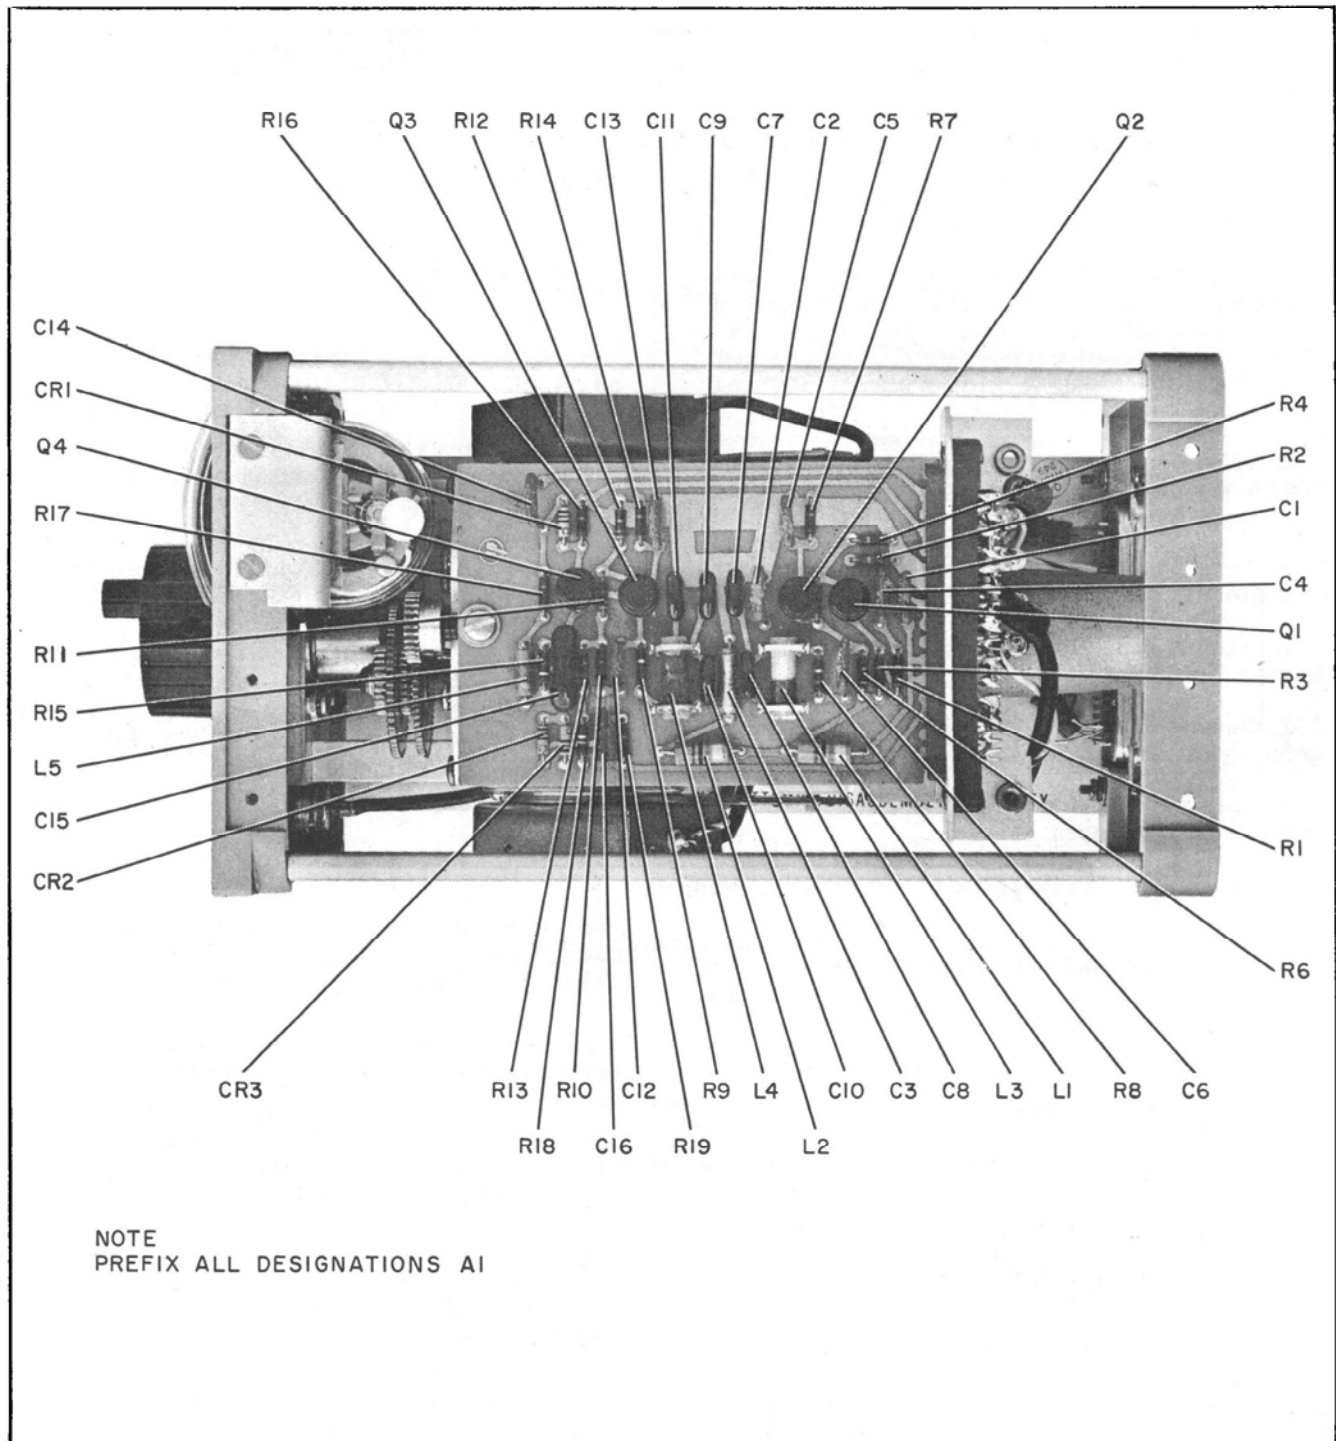

Figure IIA-4. Model 5253A, Top View
f. Using plastic tool, adjust variable inductor All4 (see Figure IIA-4) for minimum reading of RF Millivoltmeter.
h. Using plastic tool, adjust variable inductor All3 (see Figure IIA-4) for minimum reading of RF Millivoltmeter.